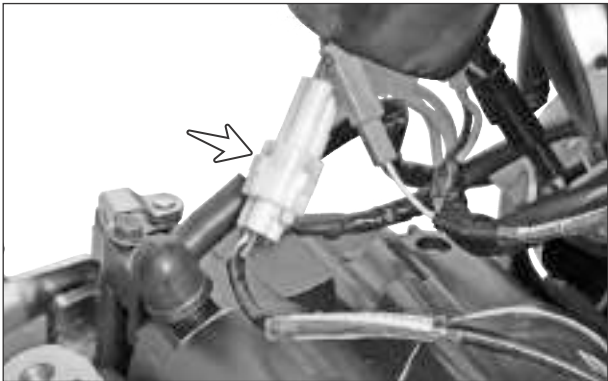

Fig. 3.105
- 1 Disconnect the speed sensor wiring socket from the main wiring harness. (Fig. 3.105)